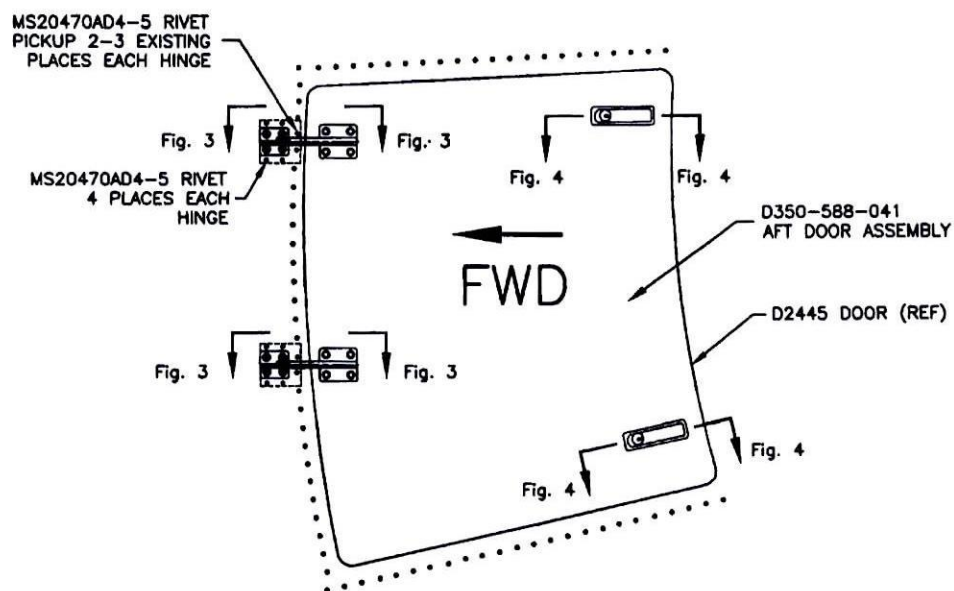

Figure 2: Baggage Door Outside View
Use Figures 2 to 5 when installing the D350-588-041 Assembly.
3. Drill out 2-3 rivets from fuselage where hinges are located (see Figure 2) for the installation of D2150/D2151 packers.